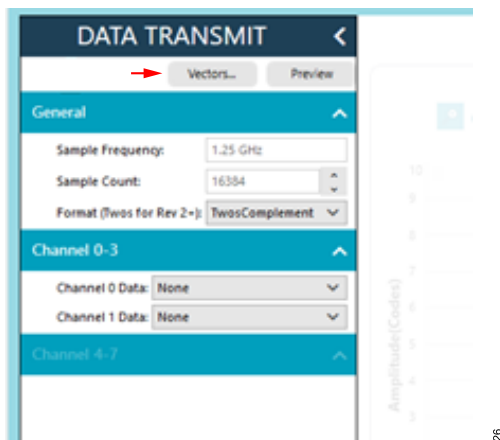

Figure 26. Data Transmit Vectors
3. Under the **DATA TRANSMIT** are, click the **Vectors...** button (see Figure 26).
- b. Change the **Data Rate** box to the same value shown in the **Sample Frequency** box (see Figure 26).